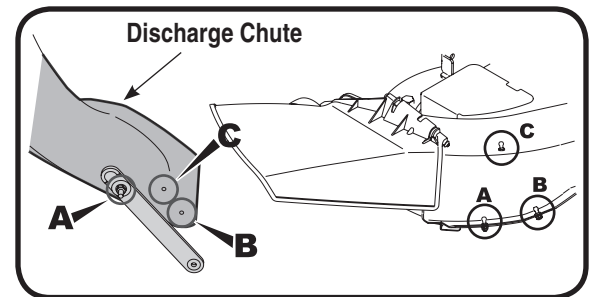

Figure 23
The retainer strap is fitted at position A on the discharge chute. However, on older models of tractors, you will have to change the position of the strap depending on the location of the grass catcher pin on the deck. Remove the retainer strap from position A on the discharge chute to position B or C corresponding to the position of the grass catcher pin at A, B or C on the deck. See Figure 23.
4. You will then need to position the retainer strap on the discharge chute to correspond with the hole and pin. See Figure 23 for retainer strap positioning.
NOTE: The retainer strap is fitted at position A on the discharge chute. However, on older models of tractors, you will have to change the position of the strap depending on the location of the grass catcher pin on the deck. Remove the retainer strap from position A on the discharge chute to position B or C corresponding to the position of the grass catcher pin at A, B or C on the deck. See Figure 23.